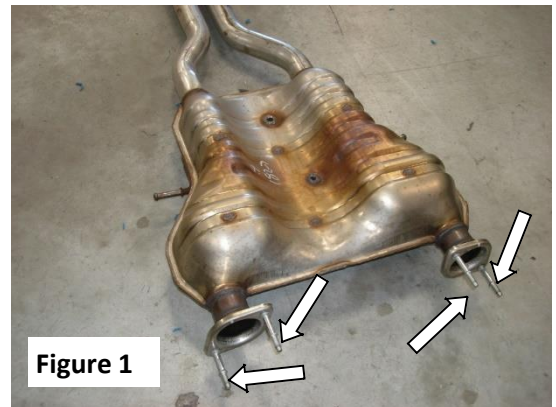

Figure 1
2. Loosen and remove nut, washer and spring on front flanges. (See Fig.1)